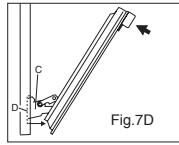

Fig.7D
5) Using both hands, push the oven door lightly inwards, toenail the door hinges "C" to come away from the slots "D" (see fig. 7D) and pull the door towards you until it is released from the oven.